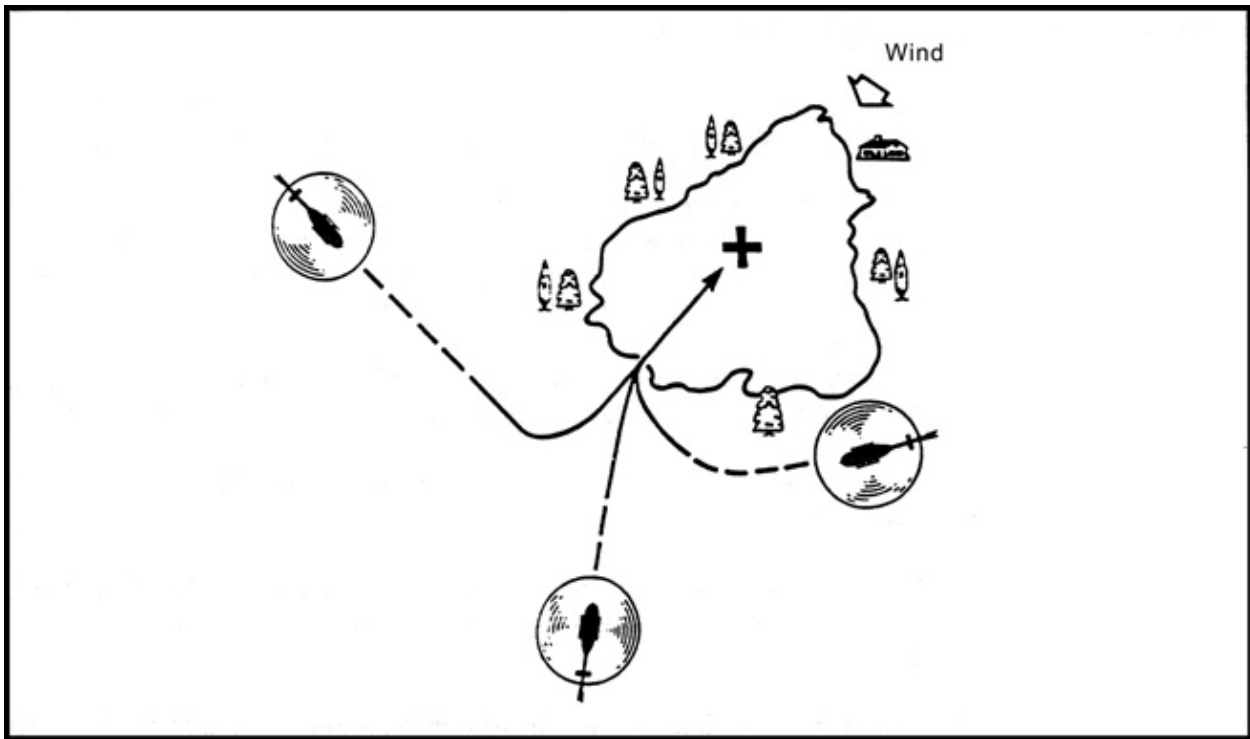

Figure 19-1: Forced Landing Approach
3. adjust the controls to make the selected area, using the techniques shown in the previous lessons on autorotation to achieve that landing spot (Fig 19-1); and